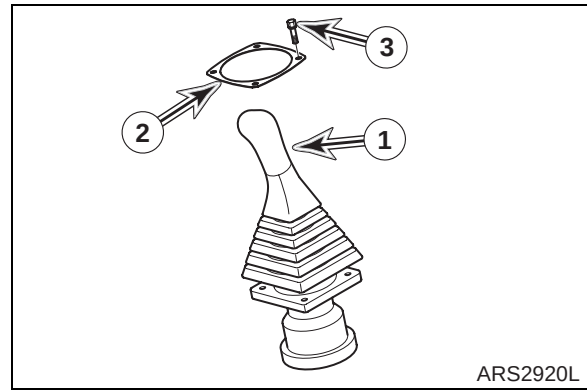

Figure 7
19. Remove four bolts (3, Figure 7) and cover (2), and pull remote control valve RH (1) out.
20. Tag and disconnect hoses from remote control valve RH (1, Figure 7). Plug and cap hoses and ports to prevent contamination from entering hydraulic system or component.